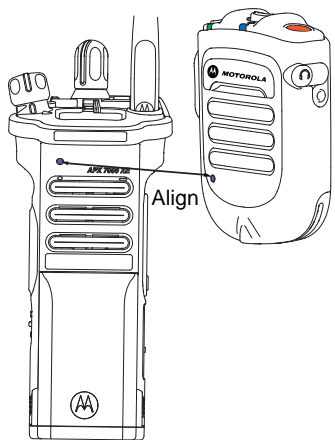

Figure 2.10: Pairing your WRSM
- 2 Place the blue dot (secure pairing spot) on the WRSM within one inch of the blue dot (secure pairing spot) on the radio. Refer to Figure 2.10.